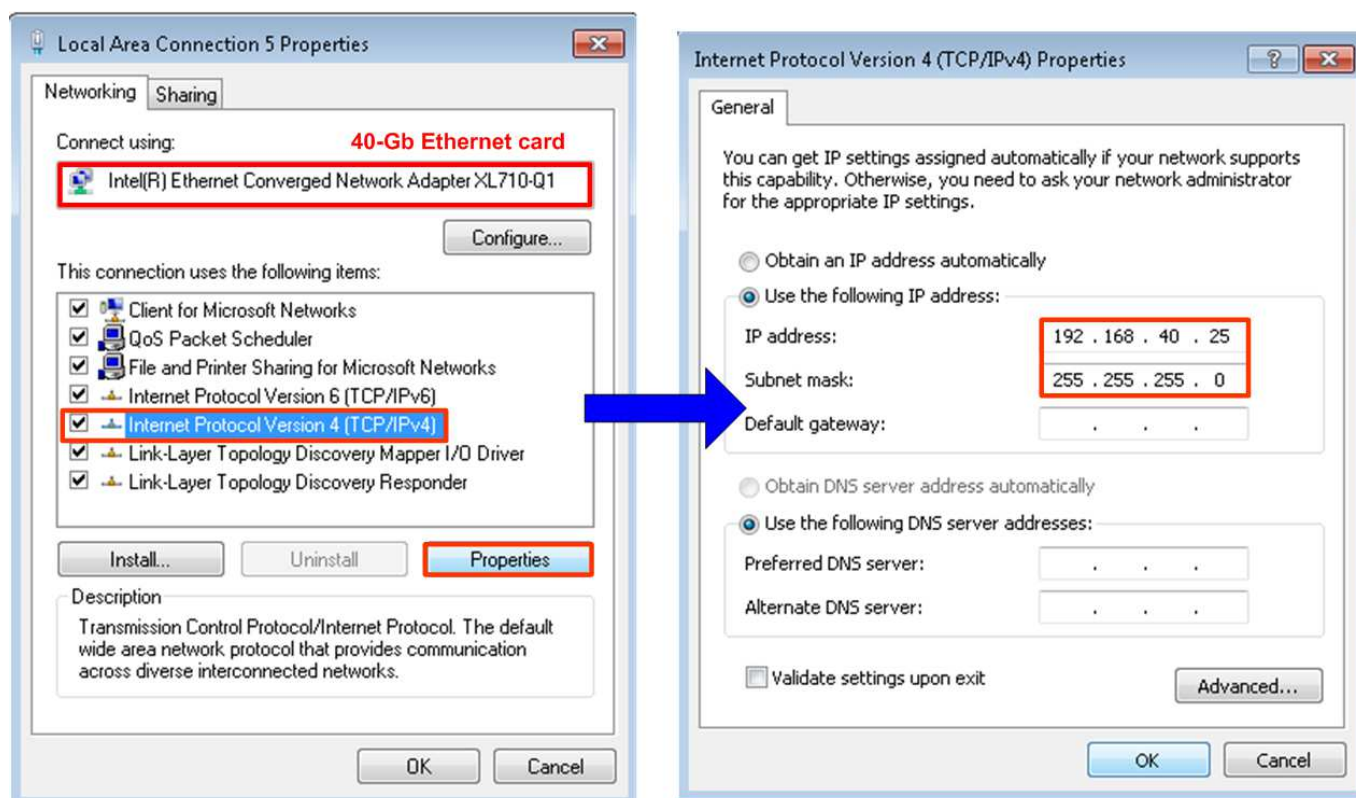

Figure 3-1 Setting IP address for PC
- 1) Open Local Area Connection Properties of 40-Gb connection, as shown in left window of Figure 3-1.
- 3) Set IP address = 192.168.40.25, and Subnet mask = 255.255.255.0, as shown in right window of Figure 3-1.